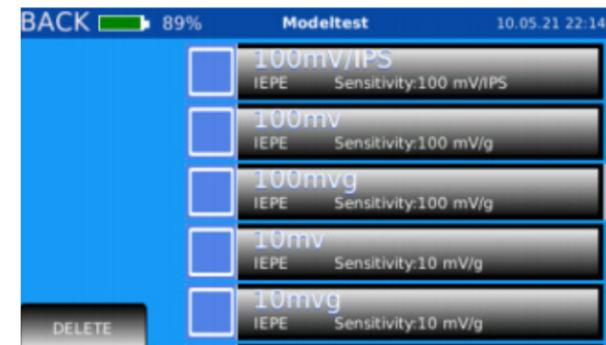

Figure 23. Select model
4. Select the model and sensitivity (Figure 23).